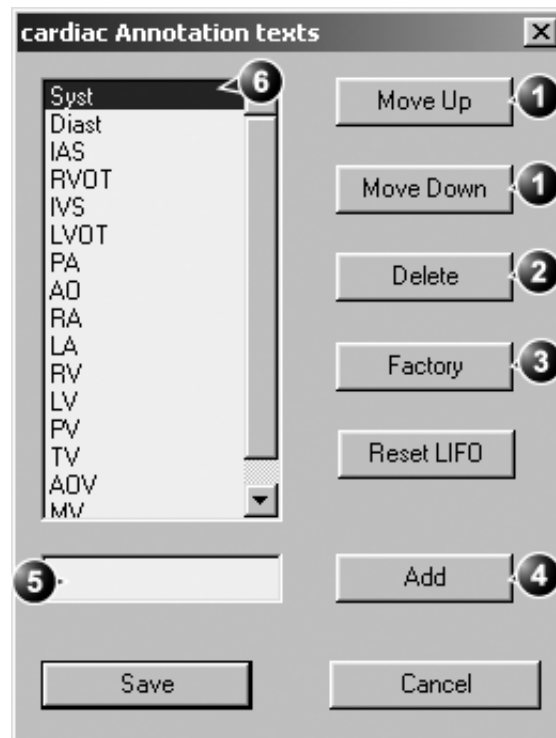

Figure 2-13: The configuration dialogue box for the annotation menu
A configuration dialogue window is displayed (see Figure 2-13) where the user can add, delete or re-arrange the annotation text.
1. Trackball to the text entry field (see Figure 2-13).